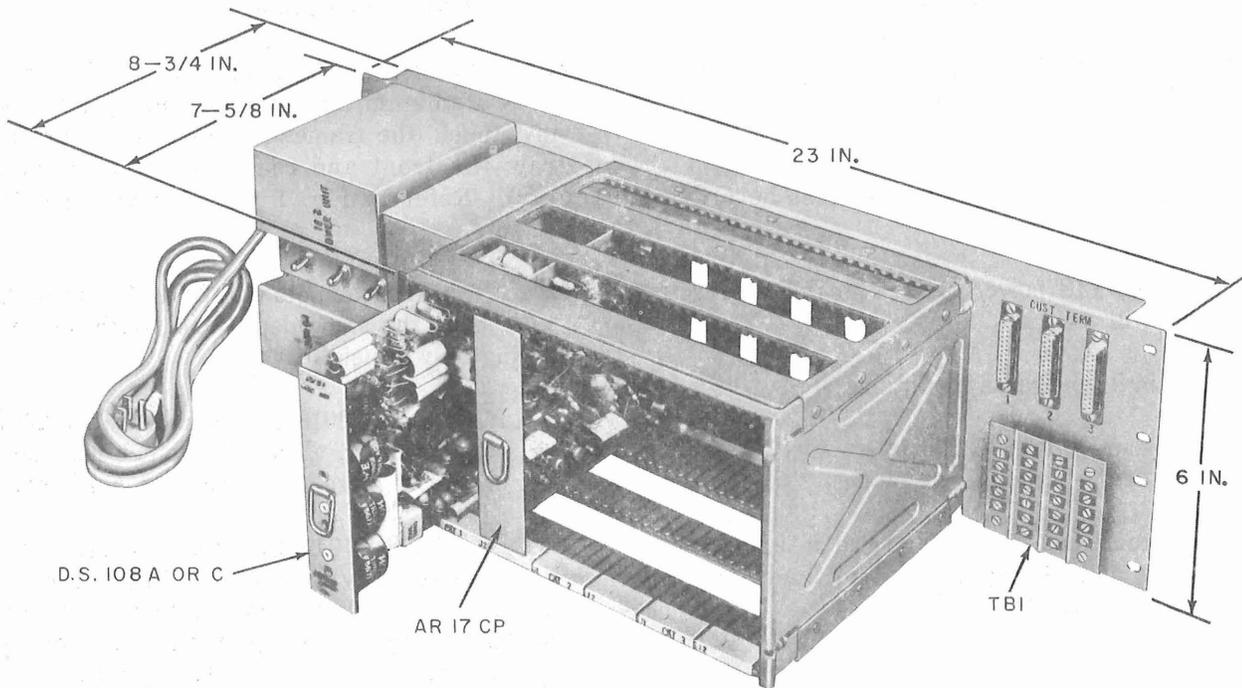

Fig. 2—Data Set 108A- or C-Type and Associated Data Auxiliary Set 820E2, One Circuit Installed
2.05 The three KS-19087-L2 connectors provide the interface connections between DAS 820E2 (Fig. 2) and Bell System or customer-provided terminals. The incoming private line facility (2-wire) and the control leads from the 6041G keyset terminate at TB1 on DAS 820E2.